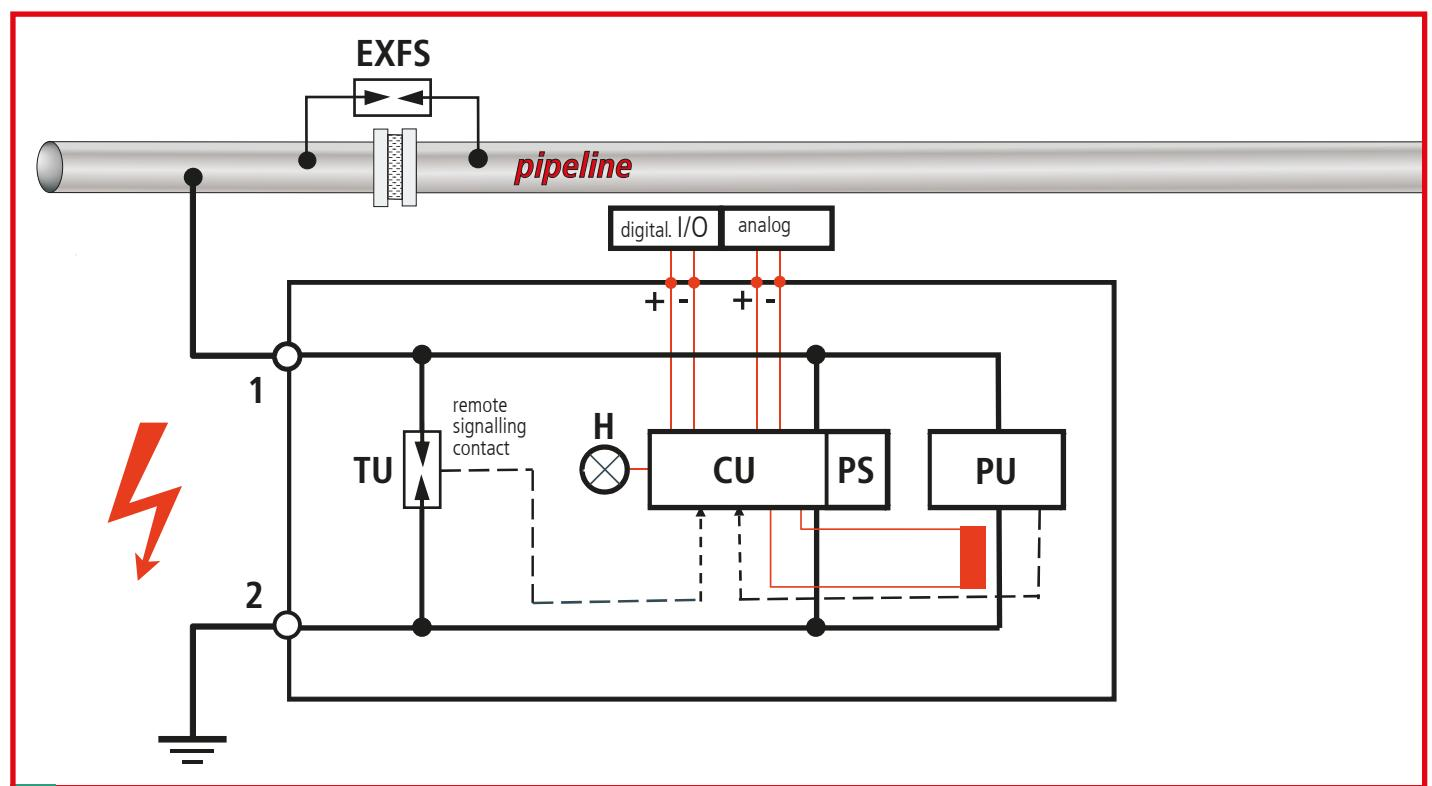

Fig. 2.2 Functional units
The **VCSD** 40 IP65 voltage-controlled smart decoupling device is used in widely distributed and highly networked electric systems which are influenced by external voltages from various sources of interference (e.g. high-voltage systems, traction power supply systems, low-voltage systems, lightning activity) (see also Fig. 2 and Fig. 2.2, page 6).
Components for limiting high-level transients resulting from lightning effects comprise powerful spark gaps. Characteristic properties of spark gaps are their short response time (typically 100 ns) and their high energy discharge capacity in case of impulses in the μs range (e.g. some 10 kA (10/350 μs)). Long-duration discharge processes (long-term or temporary time range) cause thermal overload and therefore a "relief circuit" has to "take over" the discharge process in this case, meaning that the complete discharge current flowing through the spark gap has to commute to the "relief circuit" as soon as the overvoltage exceeds the transient time range. This "relief circuit" (PU) of the **VCSD 40 IP65 smart decoupling device** consists of power semiconductors which are activated by a coordinated evaluation unit at the transition from the transient to the temporary / long-term time range. The evaluation unit (CU) evaluates different sensor signals, thus coordinating the interaction of the individual functional units (see Fig. 2.2).